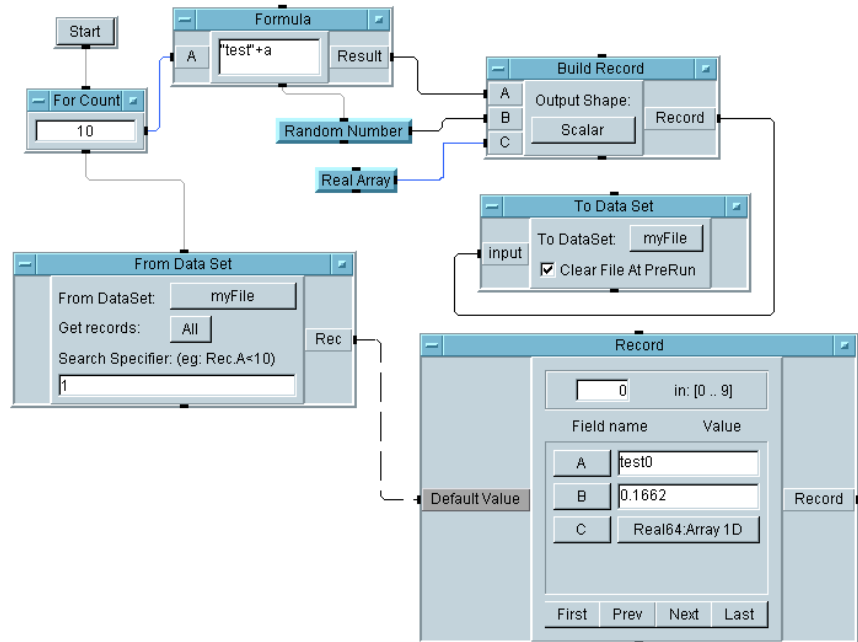

Figure 140 Storing and Retrieving Data Using DataSets
- 12** Run the program and save it as **dataset1.vee**. The program should look like Figure 140.